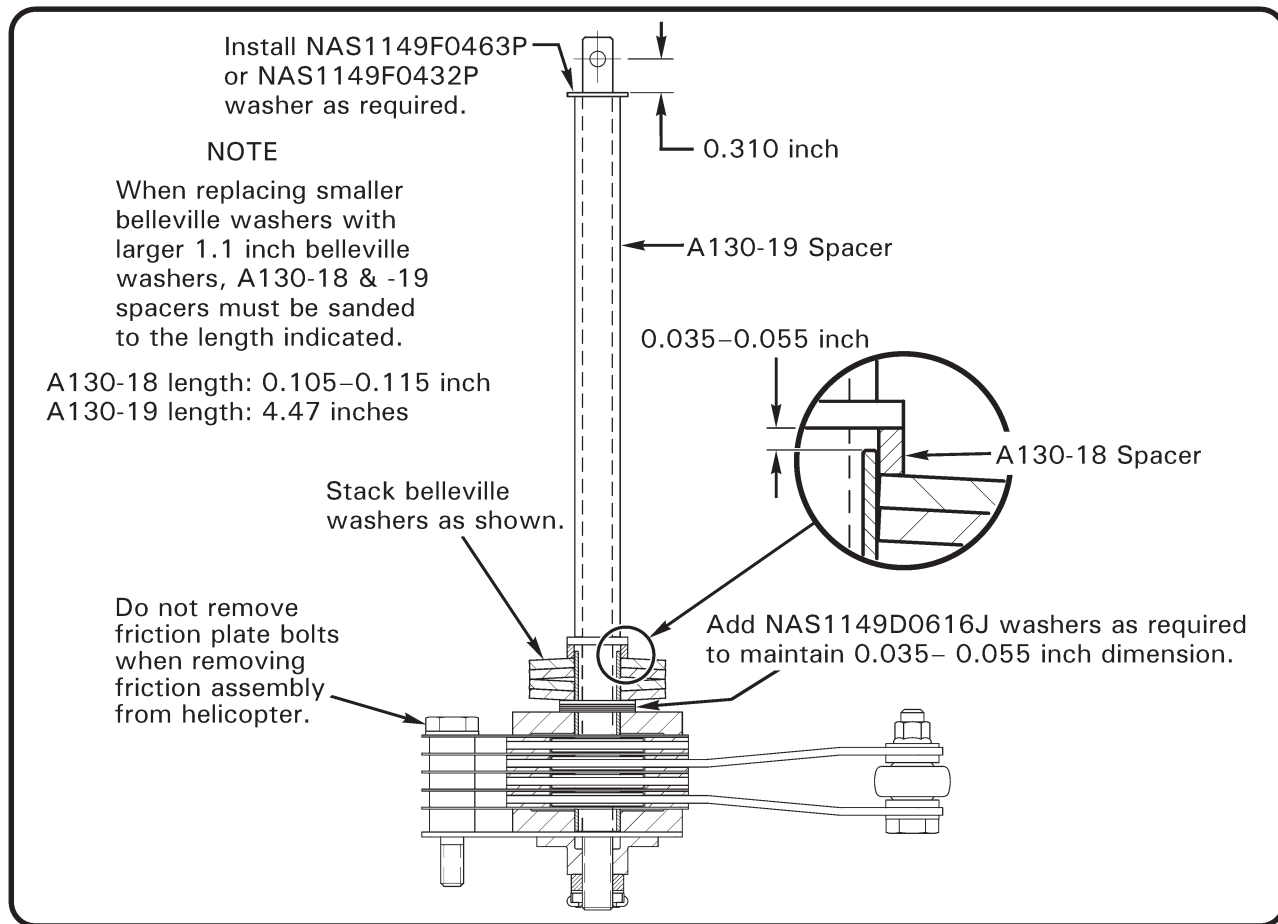

FIGURE 8-4B CYCLIC FRICTION ADJUSTMENT
8. Refer to Figure 8-4B. To adjust friction remove spring pin from friction knob and lift knob off shaft. Install NAS1149F0463P or NAS1149F0432P washer as required. Install friction knob & spring pin. Verify proper friction per preceding steps.